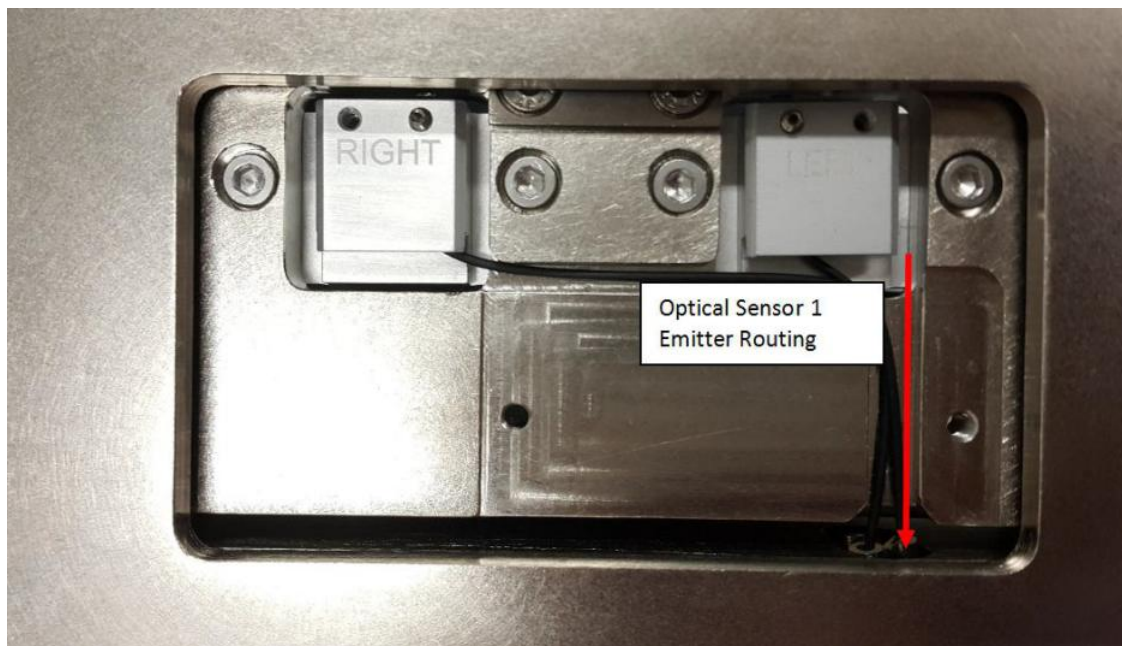

Figure 28 Optical Sensor 1 Emitter Routing
7. Routing for Optical Sensor 1 Emitter is as shown below in Figure 28.